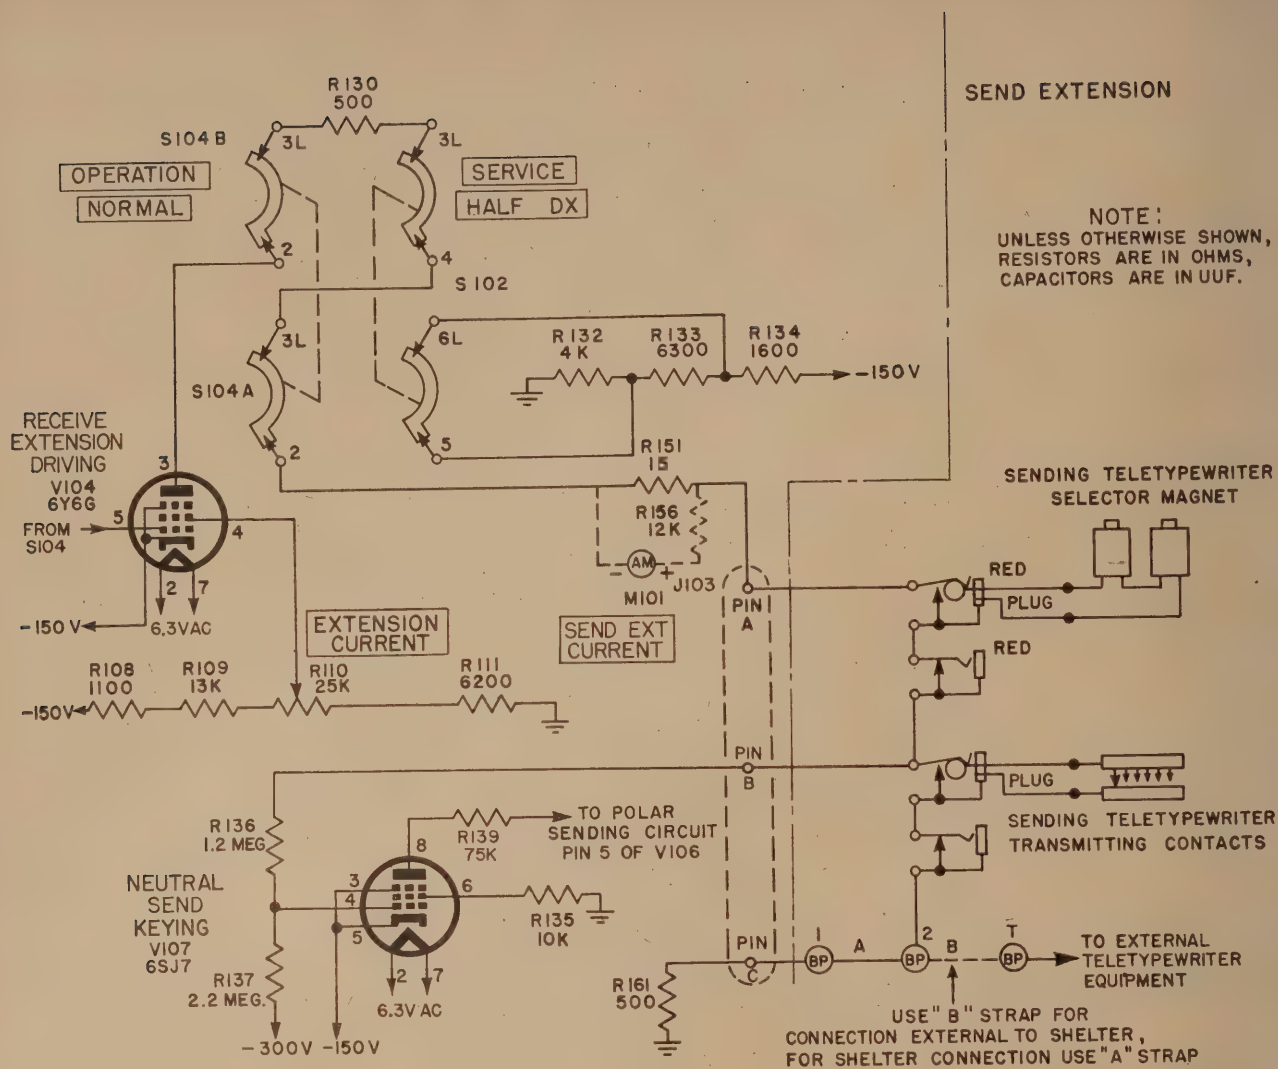

Figure 18. Extension circuit arranged for half-duplex or one-way reversible operation.
c. To obtain half-duplex in which the sending TT receives as well as transmits, SERVICE switch S102 is turned to HALF DX (center) position (fig. 18). The plate of receive extension driving tube V104 then is removed from the receive extension circuit and connected to the receiving selector magnet of the sending teletypewriter through the SEND